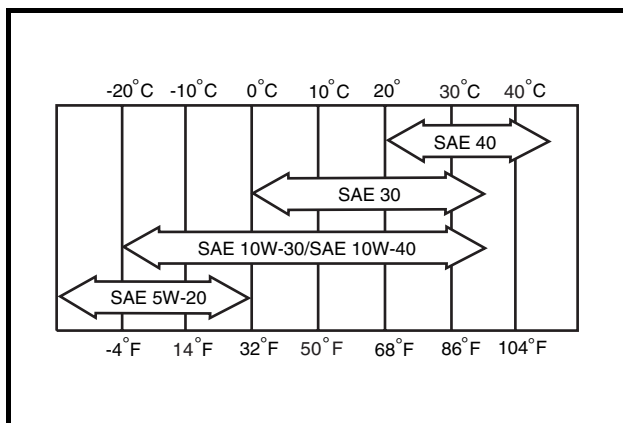

Figure 10-13 Oil Viscosity Chart
13. Remove the dipstick and add engine oil into the dipstick port. Use a funnel or pour spout to direct the oil into the dipstick port. With filter change, the engine requires 38 ounces (1.12 liters) of oil per change. Refer to oil viscosity guidelines for selection of oil grade (**Figure 10-13, Page 10-13**). Replace the dipstick.
Choose the viscosity according to the temperature as indicated by the oil viscosity chart (Figure 10-13, Page 10-13). See following NOTE.